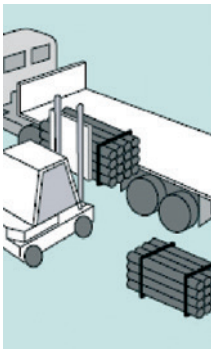

Figure 19: Unloading strapped pallets.
- The distances between brackets for horizontal pipes must be approximately 10 times the external diameter of the pipe (see fig. 19). For vertical pipes, depending on the external diameter, the distance must be between 1 and 2 meters (see fig. 18)
- The fixed bracket must be placed at the lower end of the pipe immediately above the coupler. The sliding bracket must be placed at no more than two meters above the fixed bracket (see fig. 19)